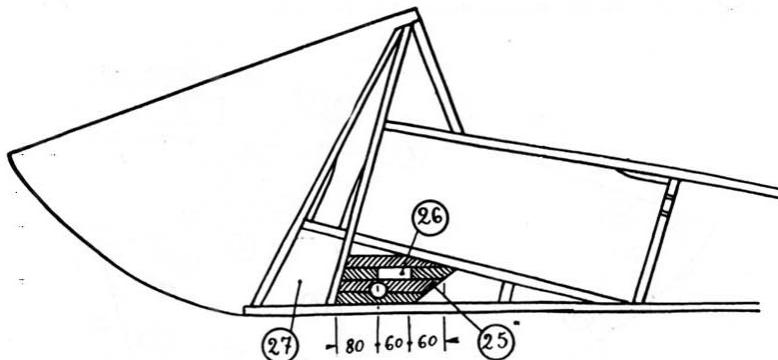

Figure 3.4: Openings at bottom of cockpit
Make the blocking ㉕ in fig. 3.4 with pieces of slats, leaving
Cut off the excess of the branches of the lyre and plane away the side material ① that extends above the lyre; for that purpose, the sides were drawn out in Figure 3.4 with 30 mm instead of 20 mm.